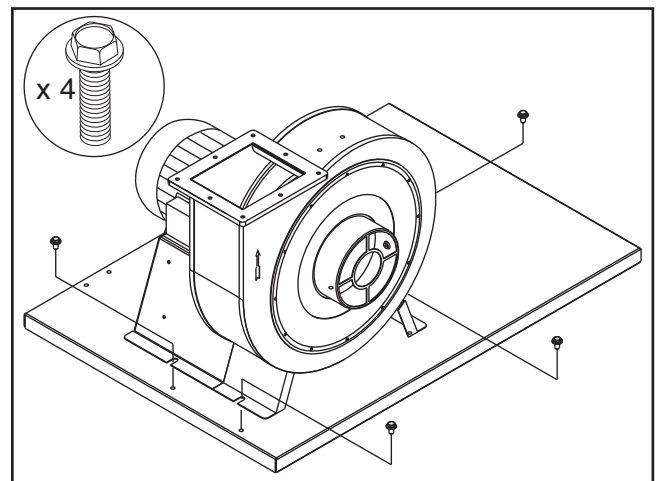

Figure 24. Mounting collector to base.
2. Set the collector body on top of the base plate so the intake portion is near the edge of the base plate and the bolt holes are aligned, as shown in **Figure 24**. Secure the collector body to the base plate with (4) $\frac{5}{16}$ "-18 x $\frac{1}{2}$ " flange bolts.